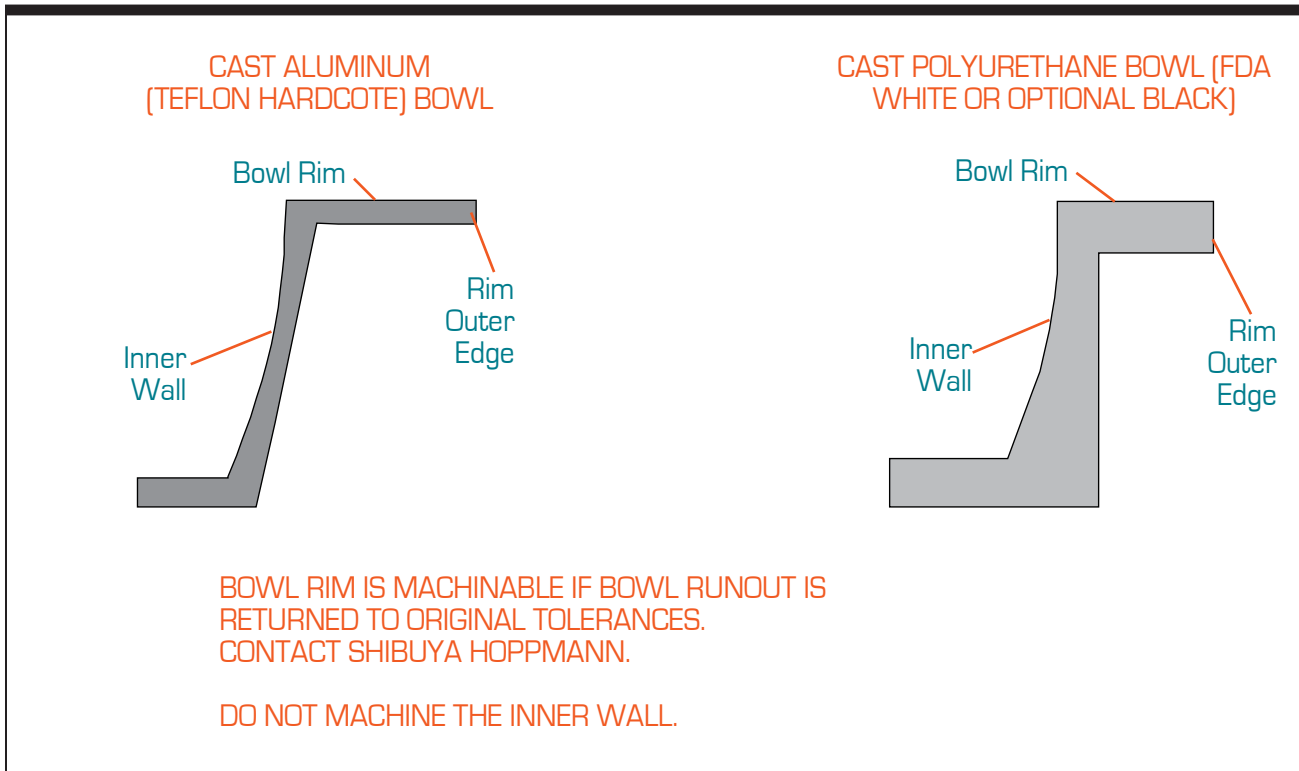

Figure 5-1. Machinable Bowl Surfaces
- ➔ The inner wall of the bowl should not be machined because the slightly enlarged gap between the disc and the inner wall of the bowl may pinch or snap product. If the inner wall of the bowl is damaged in a way that interferes with orientation, you must replace the bowl. (Refer to Figure 5-1 on the following page for machinable bowl surfaces).